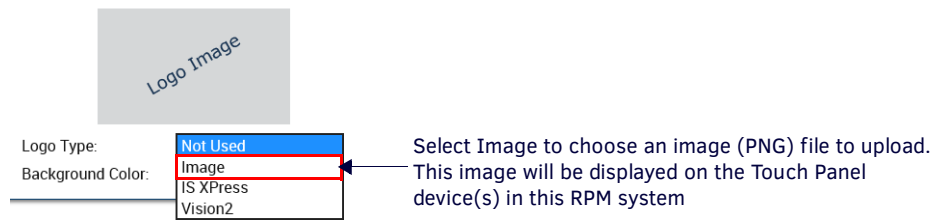

FIG. 52 Folders view context menu - Delete
1. In the *UI Themes* Page, open the **Logo Type** menu (FIG. 52):